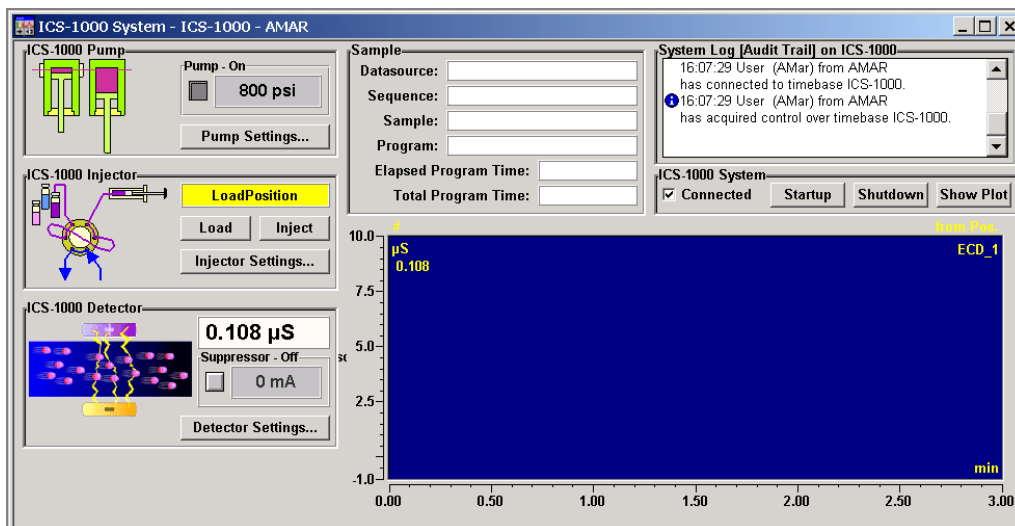

Figure 33. ICS-1000 System Control Panel Example
19. Double-click the .pan file to open the Control Panel for your system (see the example in Figure 33).